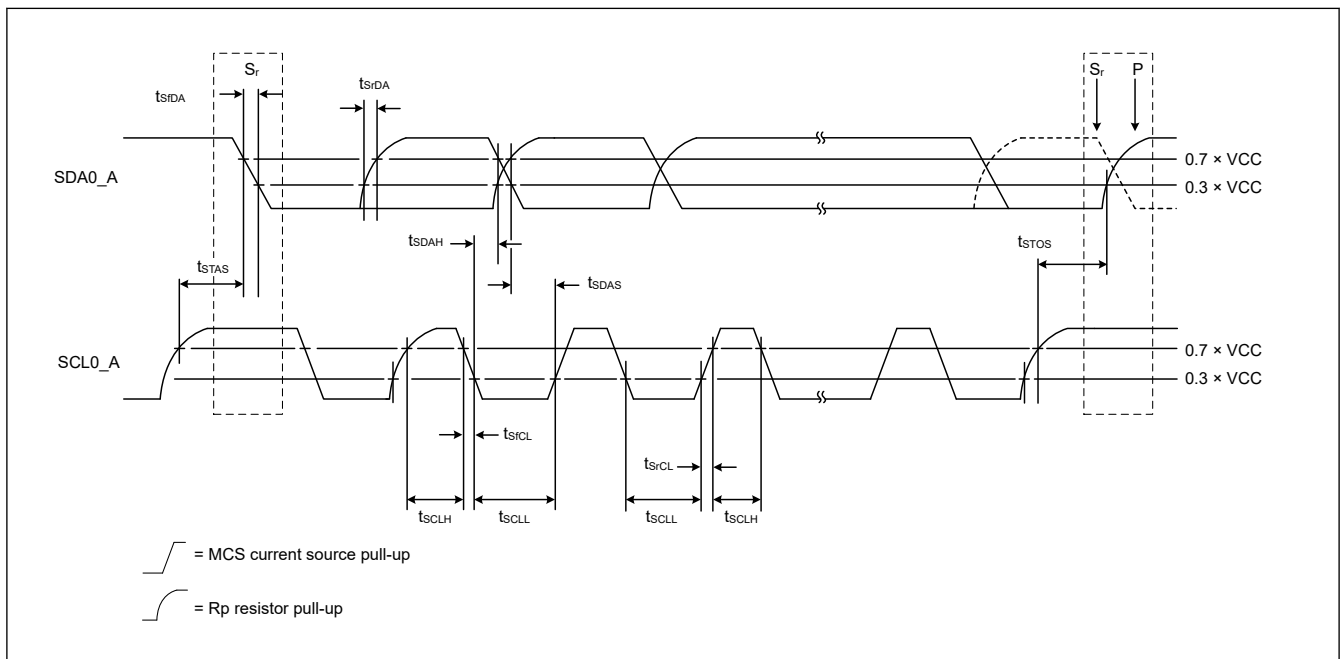

Figure 2.48 I²C bus interface input/output timing (Hs-mode)
| IIC (Hs-mode) BFCTL.HSME = 1 | SCL input cycle time | t_{SCL} | $10 (12) \times t_{IICcyc} + 80$ | — | ns | Figure 2.48 | |